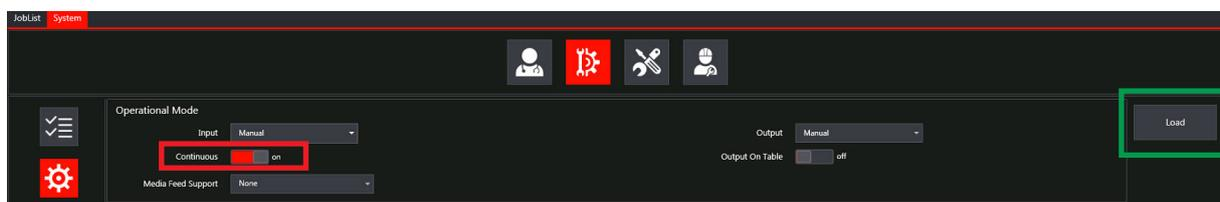

Fig.5-22: System Window - Manual Continuous Mode
- Step 1: Select Manual and Continuous option mode from the system pane (outlined in red in Fig. 5-22) and press the load button (outlined in green in Fig. 5-22). Refer to Input and Output Modes on the Tauro.